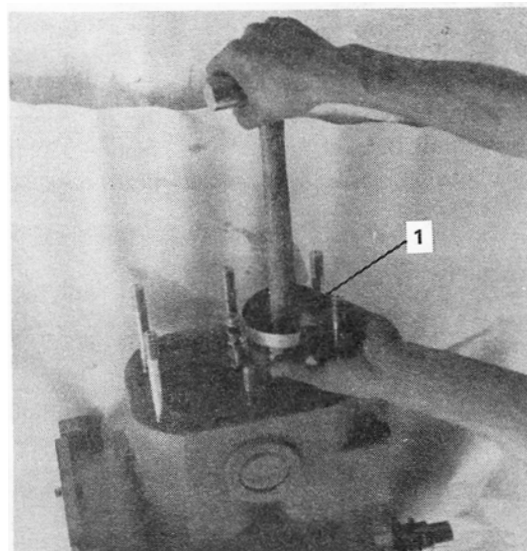

Figure 35
8. Insert the piston into the cylinder bore using a piston ring compressor, Figure 35. Tap the piston into the cylinder bore using a hammer handle. Make sure that the piston head front mark notch is facing the injection pump. Refer to "Piston and Connecting Rod," page 10.